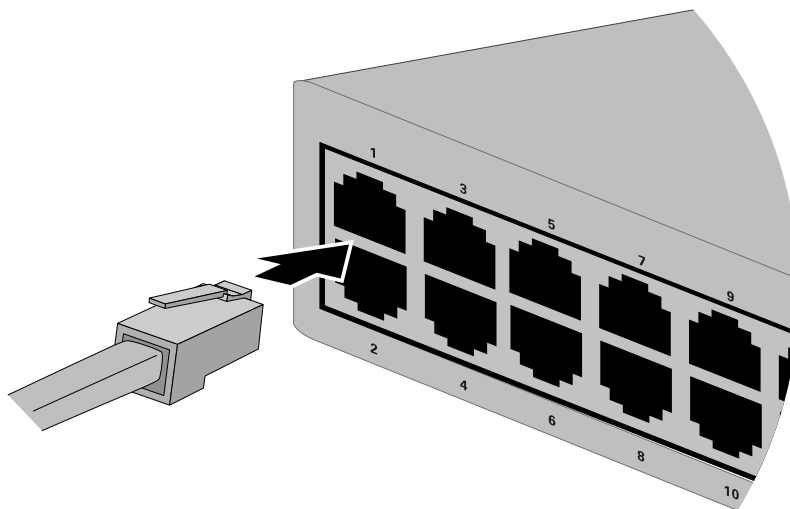

Figure 34 Connecting the Twisted Pair Data Cables
1. If your AT-8000 Series Switch has twisted pair ports, connect the twisted pair data cables to the RJ-45 ports on the switch, as shown in Figure 34.